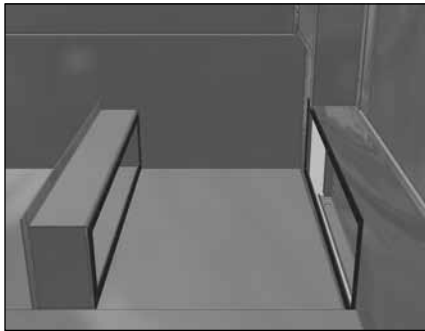

Figure 8
3. Wipe down the flanges on both ends of the flume box. On one end, apply a layer of 1/8" x 1" butyl sealer tape around the face of the flange over the centerline of the holes. Do not overlap or stretch too thinly at the corners. When it is necessary to splice the sealer, be sure to press the two ends together to form a smooth, continuous strip. Apply a second layer of sealer tape over the first layer following the same procedure. Refer to Figure 8.